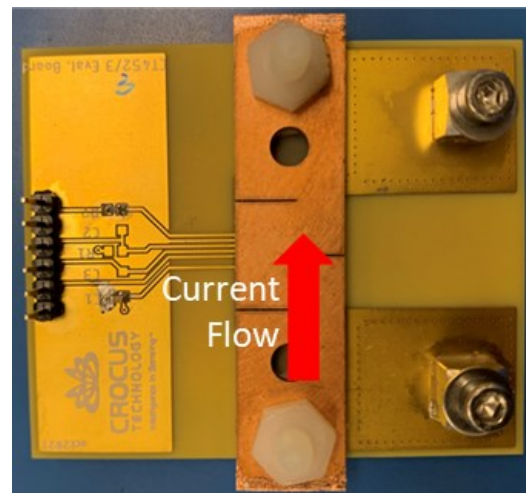

FIGURE 5. CTD453 WITH BUSBAR
The busbar supplied with the CTD453 should be used to measure larger currents. The busbar is made of copper and three (3) slits are placed in the busbar to generate a differential magnetic field. The CTD453 in this configuration is illustrated in Figure 5.